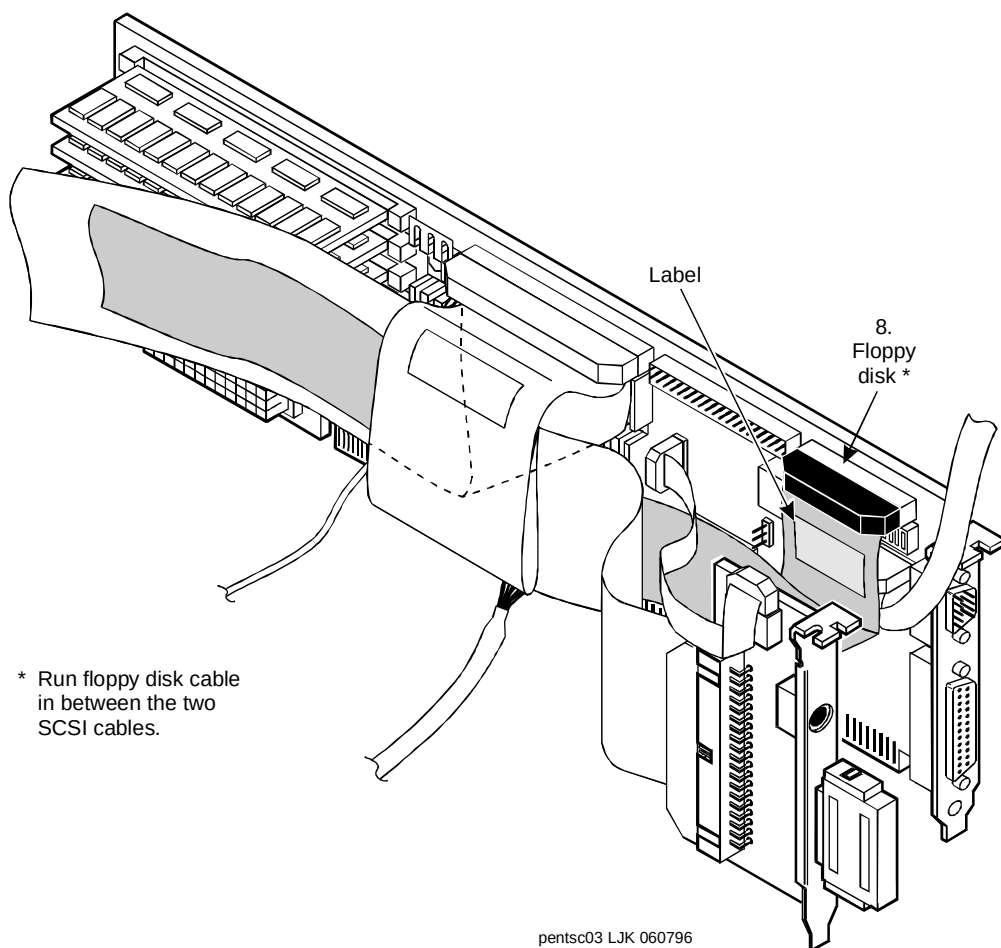

Figure 5-71. Attaching Cables to the P5 120 MHz CPU Circuit Card - Part 3
16. Attach the diskette cable to the floppy cable pins on the P5 120 MHz CPU circuit card (Figure 5-71).
The floppy cable has a label (Figure 5-71) that contains the following message:
17. Dress this cable through the SCSI cable and beneath the external SCSI connector circuit card (Figure 5-71).